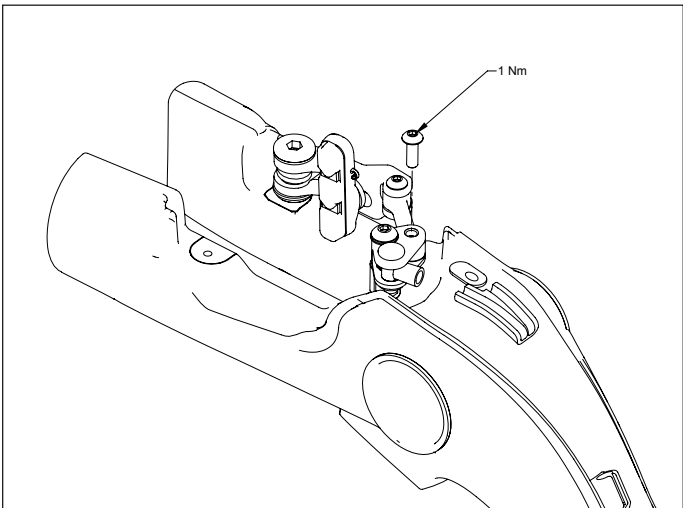

Figure 5
9. Install the slave link screw through the rocker and sleeve. Torque to 1 Nm with a 2.5 mm hex key. (Figure 5)